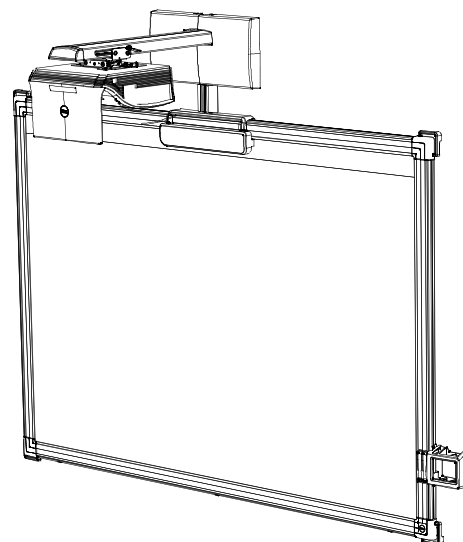

Figure 14
22. Install projector mount covers and projector (Figure 14). Refer to the S520 Dual Stud Wall Mount (MSP-DCCUST1) manual.